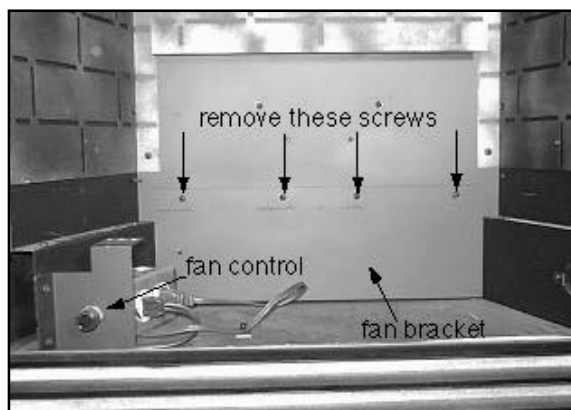

Figure 23 - Fan Removal
- 2) Remove the four screws located on the fan bracket (Figure 23). Remove two on the fan control. Remove the bushing and unplug the cord from the junction box. Slide the fan bracket out.